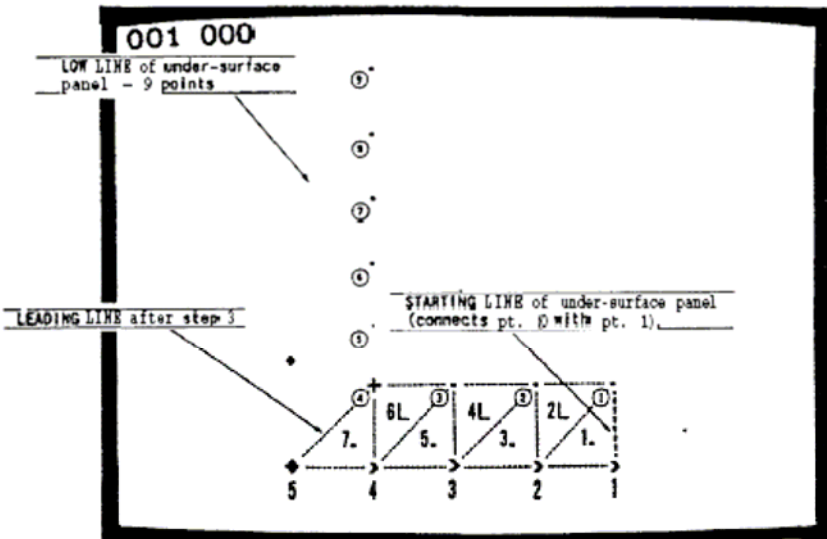

fig. 28 (HIGH LINE GRAPH)
Refer to figs. 28 through 32. while constructing the undersurface panel (Remember, numbers marking LOW LINE points are circled. Numbers marking HIGH LINE points are not circled.)
2. Use the "X" (X OF CURSOR) key to place the cursor at X = 120, Y = -40 (pt. 1, fig. 28). Form the panel STARTING LINE by typing the "." (Plot) key.
3. Use the "D" (Draw) key to set up a 5-point line to X = 0, Y = -40 (pt. 5, fig. 28). Use the "A" (Advance/Draw) key followed with either the "R" (Rectangle) or "." (Plot) key, as necessary, to construct the lower stem of the undersurface panel (to triangle 7. - see "LEADING LINE after Step 3" caption, fig. 28).